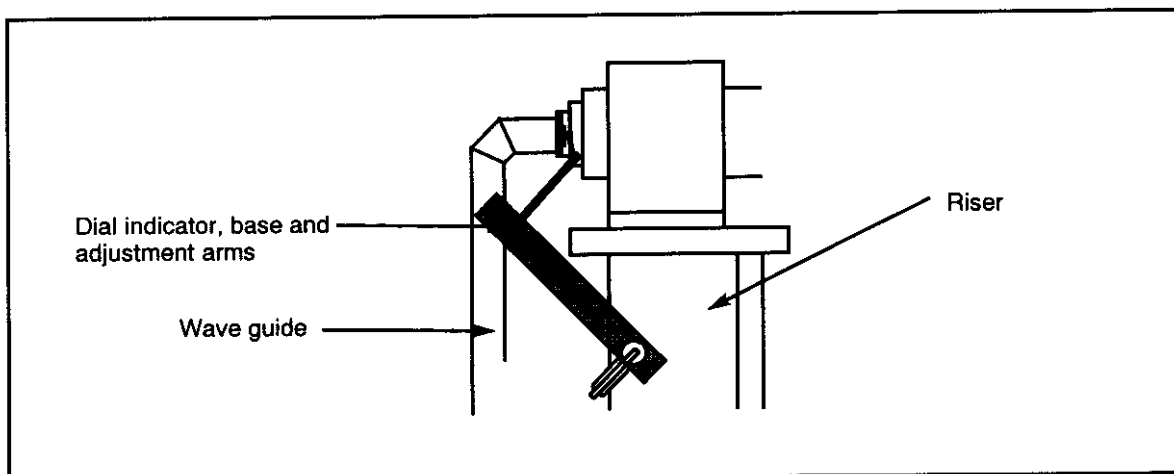

Figure 24. Elevation Rotary Joint Flat Iron Attachment
2. Using the clamp, attach the flat iron to the wave guide riser as shown in Figure 24.